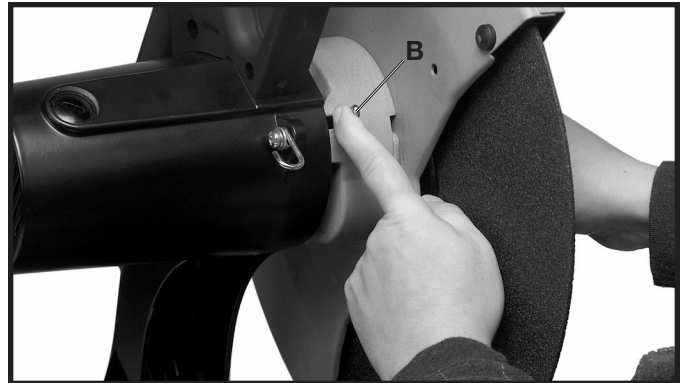

Fig. 22
2. Press in on arbor lock (B) Fig. 22, and at the same time rotate wheel (F) by hand until the arbor lock engages.